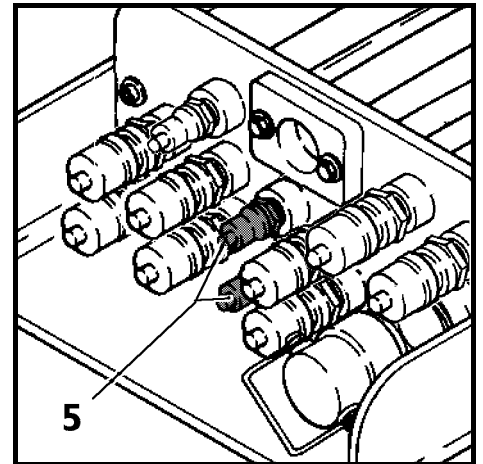

Fig. 5
Bring the engines to operating temperature, and drain the oil via the two quick change couplings in the service center (Fig. 5, pos. 5).